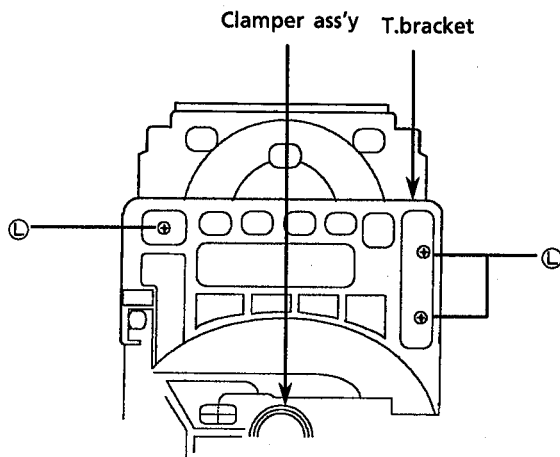

Fig.29
4. Remove 3 screws ① securing T.Bracket.(See Fig. 29.)